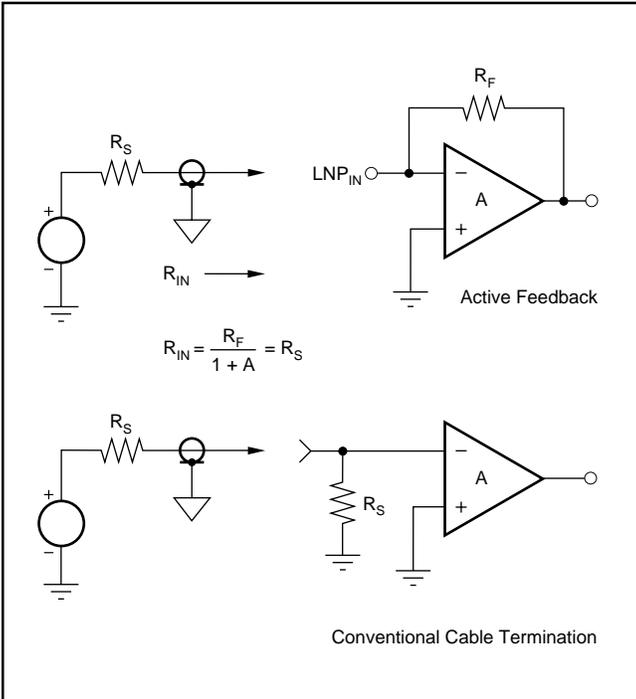

FIGURE 5. Configurations for Active Feedback and Conventional Cable Termination.
See Figure 5 for an amplifier using active feedback. This diagram appears very similar to a traditional inverting amplifier. However, the analysis is somewhat different because the gain  $A$  in this case is not a very large open-loop op amp gain; rather it is the relatively low and controlled gain of the LNP itself. Thus, the impedance at the inverting amplifier terminal will be reduced by a finite amount, as given in the familiar relationship of Equation (3):